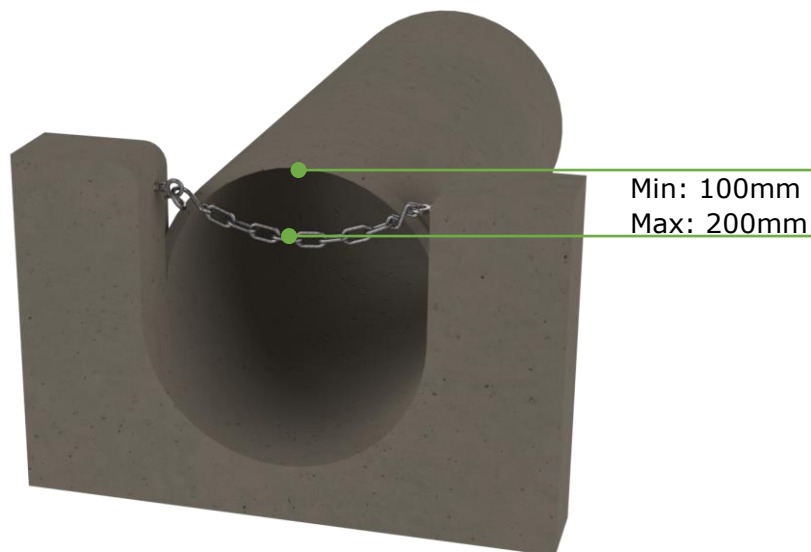

Figure 4
1. Using a 16mm masonry drill bit, drill fixing holes opposite each other to a minimum depth of 80mm in position displayed in fig 4
3. Tighten nuts to a suitable level of torque with approximately 15mm of exposed thread past the nut on each side. Re-connect pigtailed link to eye on the one side. Adjust eye bolt (and tighten nut) if required to meet the dimension shown below in Figure 4.